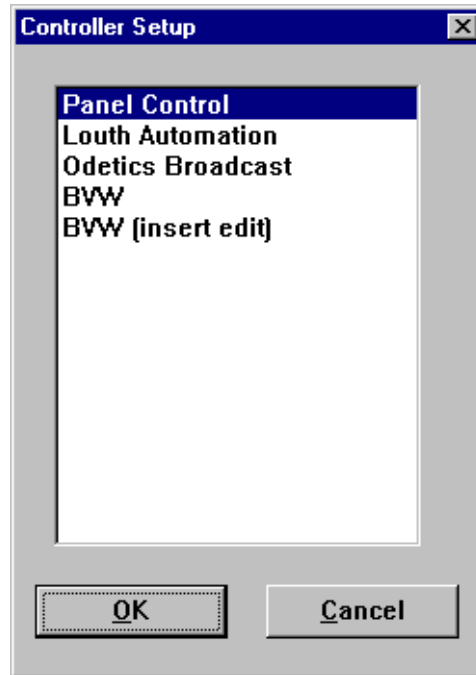

Figure 77. Controller Setup dialog box
2. Choose **Controller | Select** to open the Controller Setup dialog box (Figure 77).